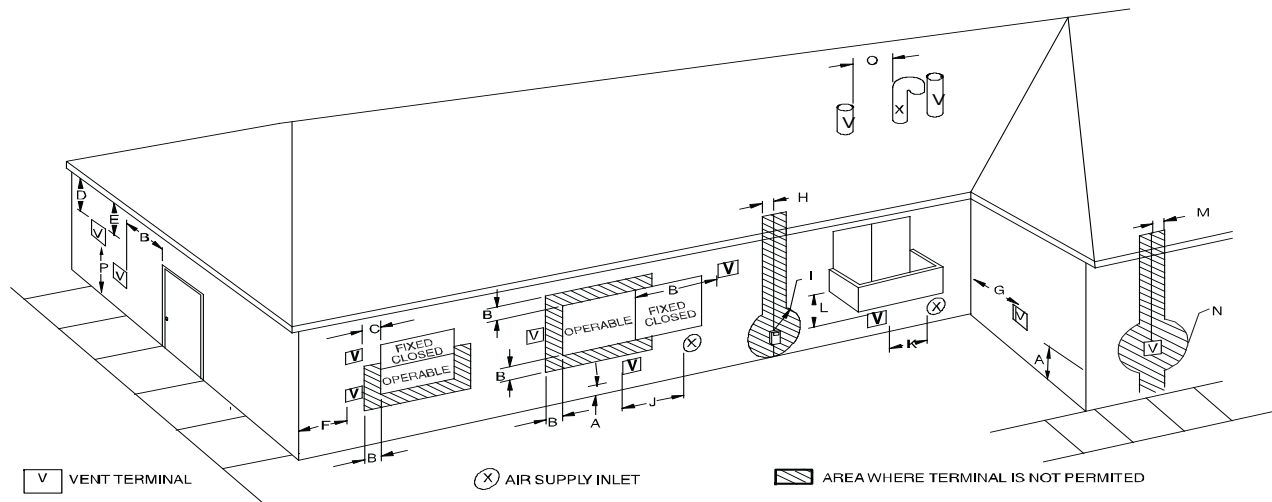
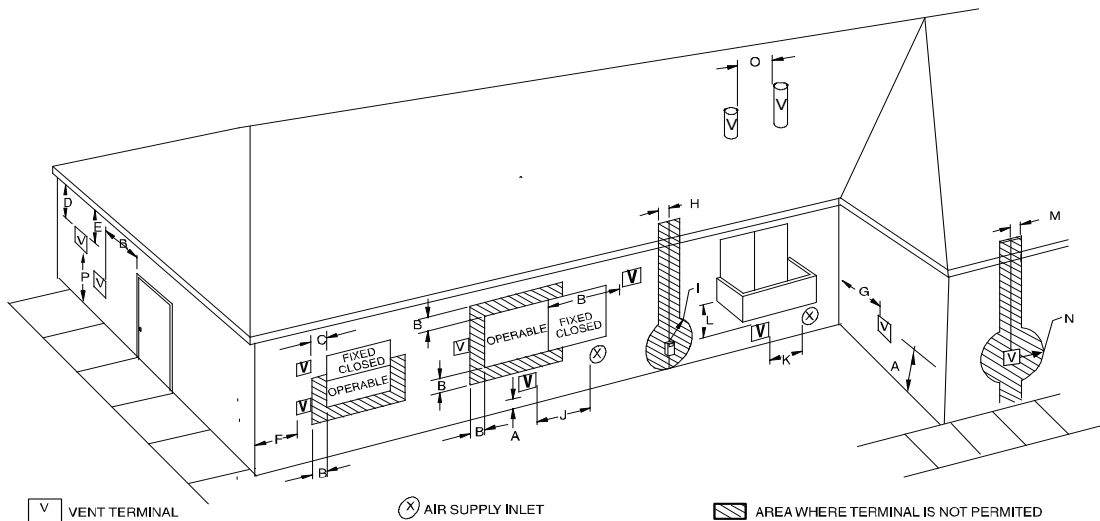
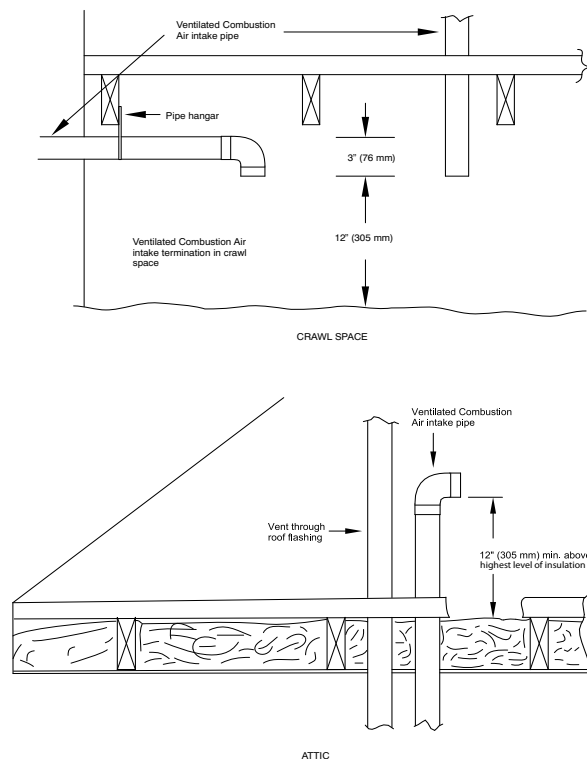

Fig. 42 – Direct Vent Termination Clearance
Fig. 43 – Ventilated Combustion Air and Non-Direct Vent Termination Clearance
Fig. 47 – Vent Terminations for Ventiladed Combustion Air
In a direct-vent (2-pipe) system, all air for combustion is taken directly from outdoor atmosphere, and all flue products are discharged to outdoor atmosphere. Combustion-air and vent pipes must terminate together in the same atmospheric pressure zone, either through the roof (preferred) or a sidewall. See Fig. 42 for references to clearances required by National Code authorities.
In a ventilated combustion air option, the vent terminates and discharges the flue products directly to the outdoors similar to a direct vent system. See Fig. 43 for references to clearances required by National code authorities.
outdoor atmosphere. Air for combustion must be supplied as described in the Air For Combustion and Ventilation Section. Do not use an abandoned chimney to supply outside air to the furnace. See Fig. 43 for references to vent clearances required by National code authorities.
For vent termination clearance, references to National codes are shown in Fig. 42 for Direct Vent/2-Pipe system and Fig. 43 for Ventilated Combustion Air/Non-direct Vent/1-Pipe system. For exterior termination arrangements, refer to Fig. 39 for Direct Vent/2-Pipe system and Fig. 40 for Ventilated Combustion Air/Non-Direct/1-Pipe system. Contact Local code authorities for other requirements to and/or exemptions from the National codes shown in the figures.
1. Comply with all clearance requirements stated in Fig. 42 or Fig. 43 per application.
Direct vent (2-pipe) vent and combustion air pipes must terminate outside the structure. See Fig. 42 For references to vent clearances required by National code authorities. Allowable vent and combustion air terminations are shown in Fig. 39.
The vent pipe for a Ventilated Combustion Air System must terminate outdoors. See Fig. 43 for references to vent clearances required by National code authorities. Allowable vent terminations are shown in Fig. 40. The combustion air pipe terminates in a well-ventilated attic or crawl space. Follow the clearances as shown in Fig. 47.
The vent pipe for a Non Direct Vent (1-pipe) system must terminate outdoors. See Fig. 43 for references to vent clearances required by National Code authorities. Allowable vent terminations are shown in Fig. 40.